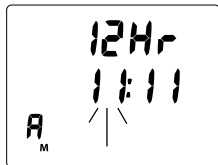

Fig. 40 - SET TIME
- Depressing and holding the S (Side) button while the HOUR Set Point is flashing (Fig. 40) will scroll through the Set Points in 1 Hour increments at a rate of 4 per second from 12: Am to 11: Pm (or 0: to 23: if set for 24 Hour Format).